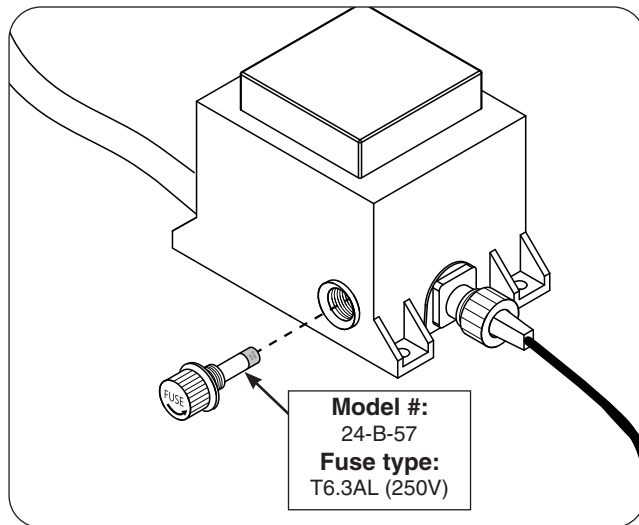

Fig. 36-1 Replace fuse
3. Locate the fuse holder on the power supply box (see Fig. 36-1).